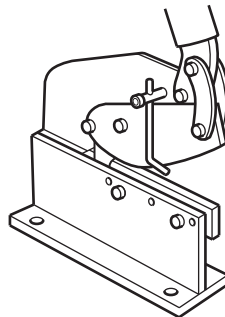

Fig. 12.5
- (ii) Fig. 12.5 shows part of a guillotine that could also be used to cut sheet metal.
Explain why the guillotine shown in Fig. 12.5 would only be partly successful in cutting out the waste metal in the development (net) of the bird feeder.